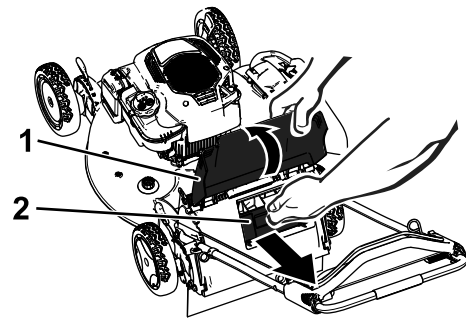

Figure 33
- Raise and hold up the rear door (Figure 33).
- Pull out the rear-discharge plug (Figure 33).